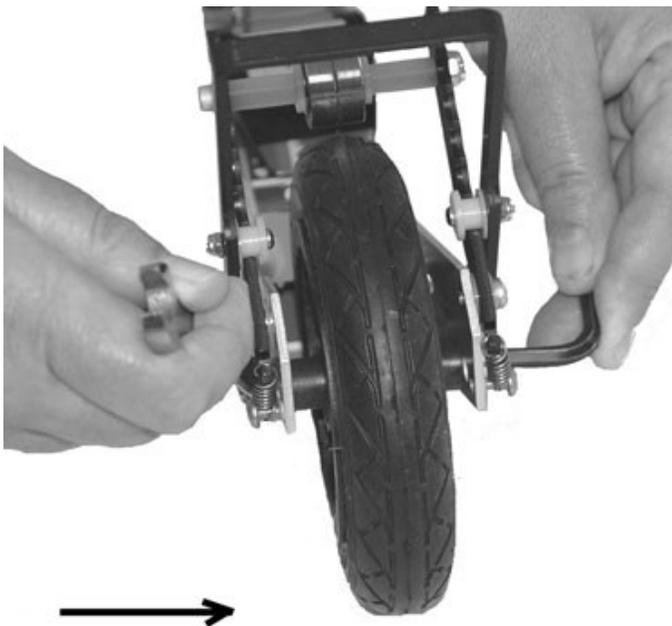

Fig. 3
**TRACKING:** The Aero XL are designed so you can slightly alter the tracking of the ski. Most tracking problems are due to bindings not being mounted properly, or the user is anatomically misaligned. One hole on the front fork, where the nut is mounted, is slightly oval shaped. If the ski pulls to one side loosen the nut about 1/2 turn while pushing the wheel against a table top in the opposite direction of the "pull". The serrated washer will keep the wheel from shifting back to the center of the hole. See Figure 3.